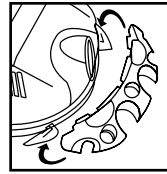

FIGURE 8
9. With rear of unit facing you, take tool holder and position it with tabs facing rear of unit. **FIGURE 8**.